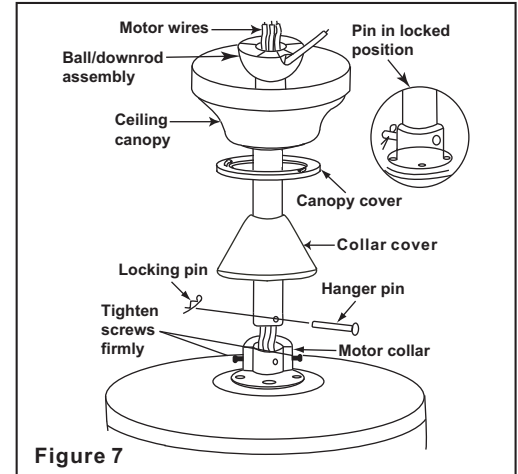

Figure 7
Step 6. Route wires exiting from the top of the fan motor through the collar cover, canopy cover, canopy and then through the ball / downrod. (Fig. 7)
Step 7. Align the holes at the bottom of the downrod with the holes in the collar on top of the motor housing (Fig. 7). Carefully insert the hanger pin through the holes in the collar and downrod. Be careful not to jam the pin against the wiring inside the downrod. Insert the locking pin through the hole near the end of the hanger pin until it snaps into its locked position, as noted in the circle inset of Fig. 7.
Step 8. Tighten two set screws on top of the fan motor firmly. (Figure 7)